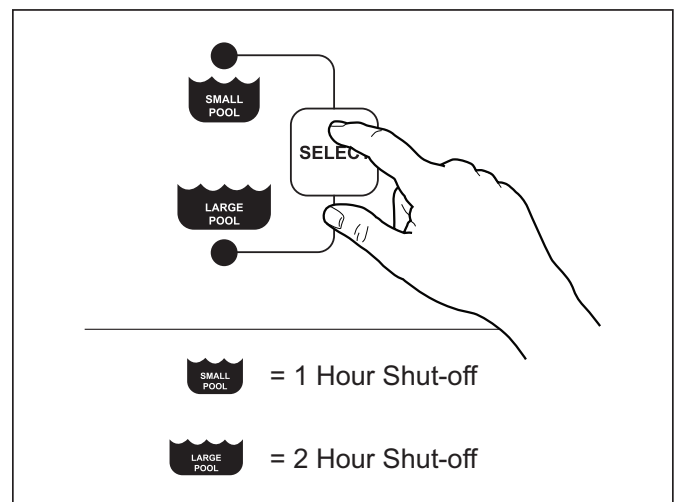

Figure 7. Select Pool Size and Duration
2. Press SELECT button to choose between SMALL POOL and LARGE POOL. Cleaning duration for a small pool is 1 hour; for a large pool, duration is 2 hours (Figure 7).